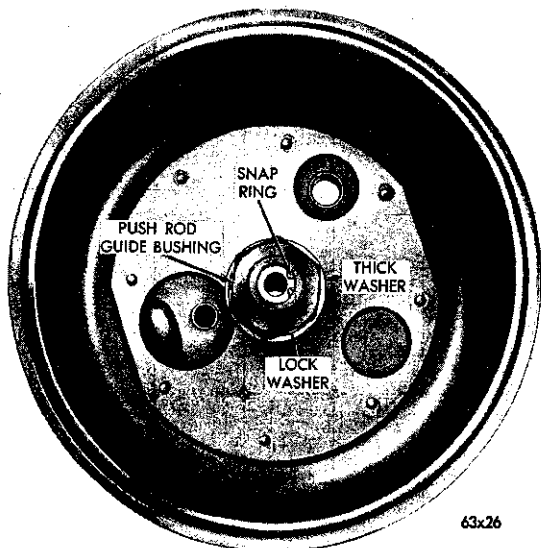

Fig. 44—Housing and Piston Guide
(7) Using a standard $1\frac{3}{16}$ " socket, unscrew the push rod guide bushing from the slave cylinder housing and remove the front shell, a thick spacer washer and a lock washer. Remove and discard the "O" ring from the rolled tube that protrudes from the back of the control valve housing, and the gasket that seals between the control valve housing and the front shell of the booster. Remove and discard the "O" ring from a groove around the front end of the guide bushing (Fig. 44). Remove the Truarc snap ring, flat washer and lip seal from the counterbore in the front end of the guide bushing. Discard the seal. Re-